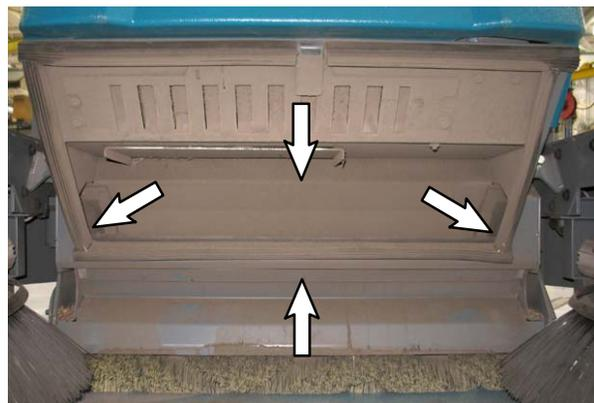

FIG. 1
5. Place the machine into the manual mode and completely lower the sweep head to the floor to access to parts that will be replaced. If necessary, either refer to the *SERVICE MANUAL* or contact a Tennant Service Representative for information how to place the machine into the manual mode. (Fig. 1)